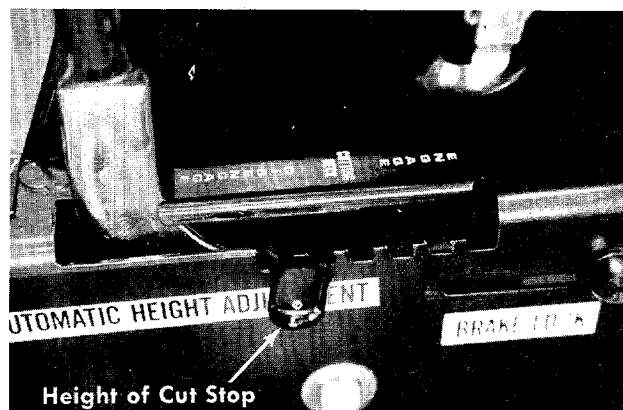

FIGURE 10. HEIGHT OF CUT SETTINGS
**Height of Cut Stop.** See figure 10. Lift the stop and set it at the desired cutting height.
To set the cutting deck in the full float position, set the wheel height adjusters in the desired cutting height as indicated in figure 11. Set height of cut stop in the 1½ position. See figure 10.